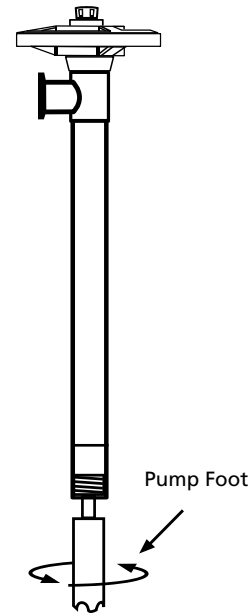

Figure 3
3. Remove the pump foot. (see Figure 3)